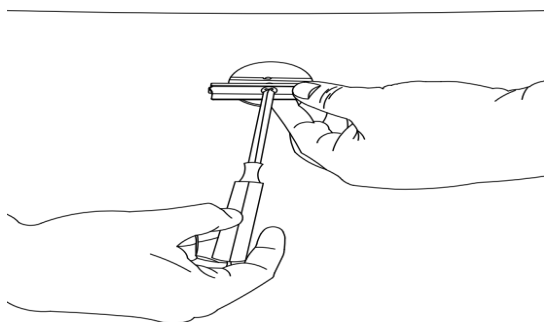

FIGURE 3
2. Thread the screw through the metal bar and the overflow plate behind it. Tighten the screw. See Figures 3 and 4.